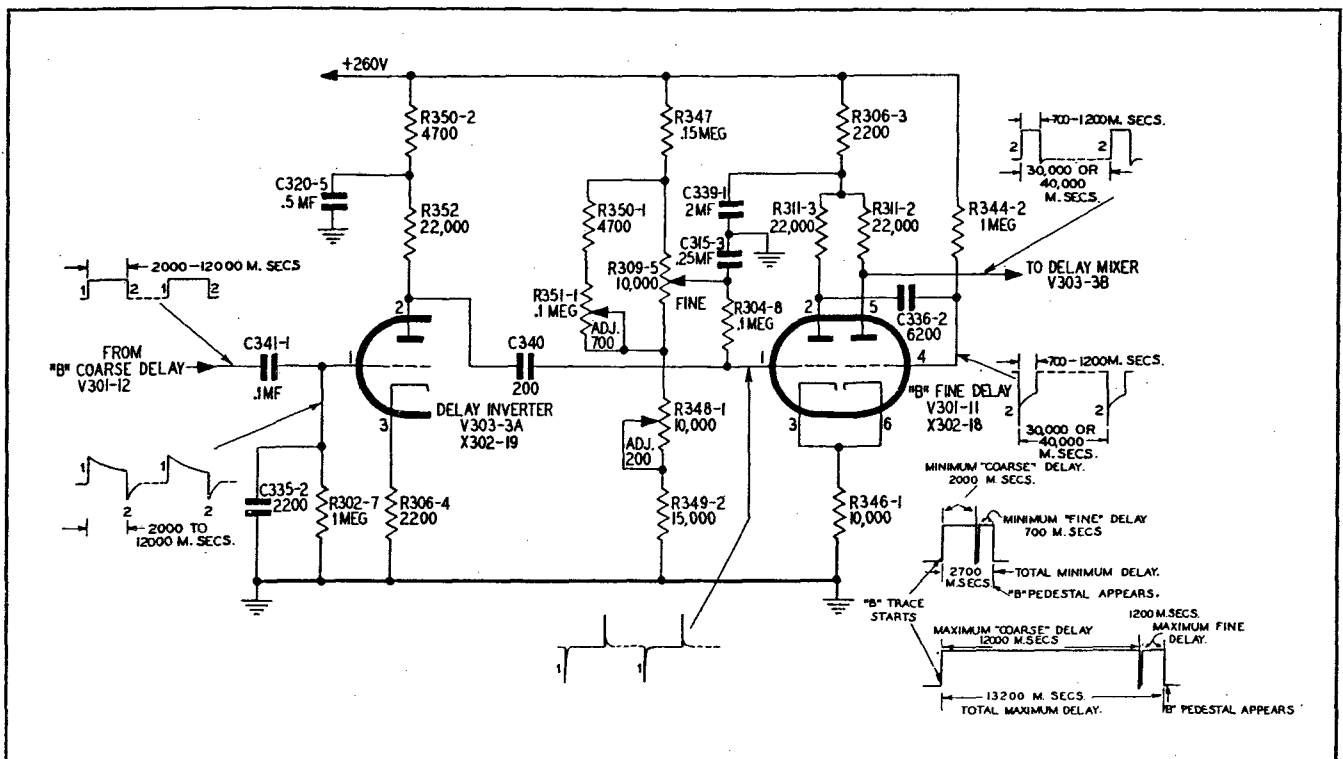

Figure 4-59. B-Fine Delay Circuit
a. DELAY INVERTER.—The output from the B-coarse delay multivibrator is capacitively coupled through C-341-1 to the grid of V-303-3A, which comprises the delay inverter. The function of this circuit is to invert and amplify the output of the B-coarse delay before it is applied to the B-fine delay multivibrator, shown in figure 4-59, whose delay action it initiates. When the positive pulse from the B-coarse delay ends, the voltage on the output plate drops or goes in a negative direction. This change applied to the grid of V-303-3A decreases the conduction of this stage, causing the plate voltage to rise abruptly. This positive-going output is coupled through capacitor C-340 to the input grid of the B-fine delay multivibrator.